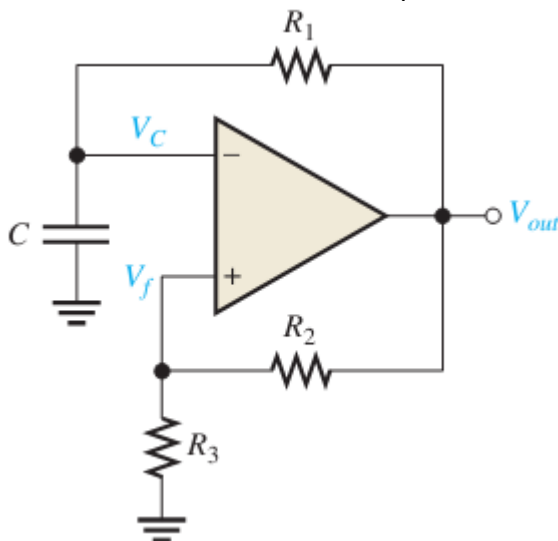

Figure 28 A square-wave relaxation oscillator.
- This action continues to repeat, as shown in Figure 28, and a square-wave output voltage is obtained.